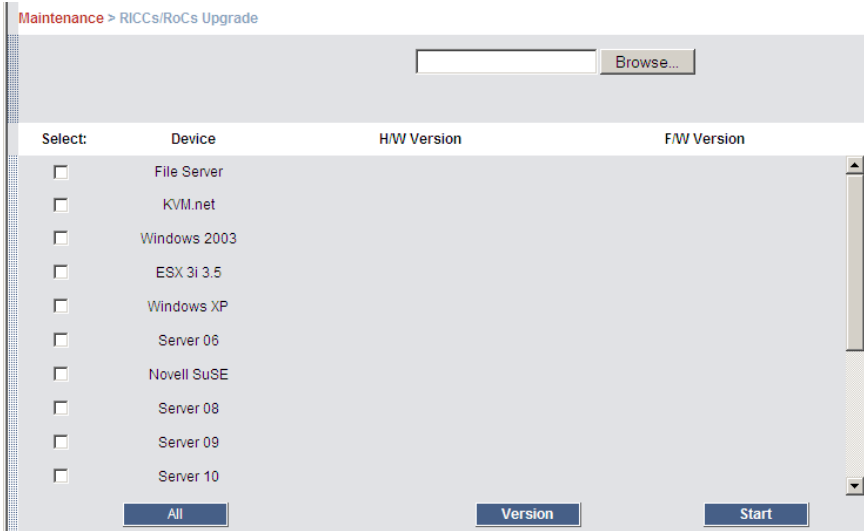

Figure 36 RICC/RoCs Upgrade
1. From the menu select **RICCs/RoCs Upgrade**. The **RICCs/RoCs Upgrade** window appears showing the current firmware version see Figure 36.